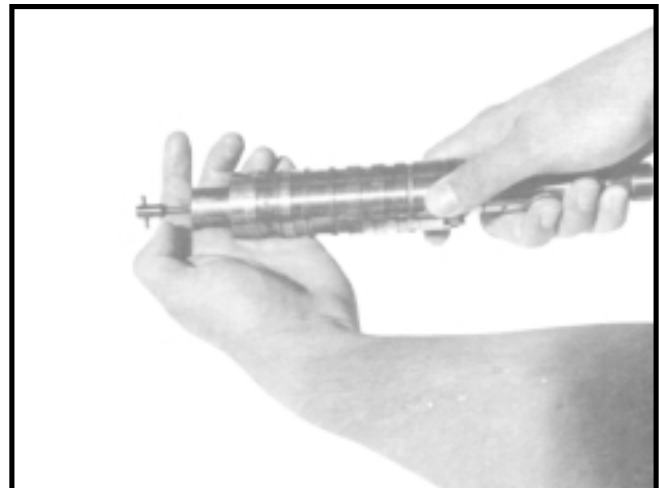

Figure HGA-13
19. Remove the torsion bar (20) and spacer (19) by inverting the spool assembly and allowing the parts to fall free. Do not remove needle roller (21) from torsion bar. (See Figure HGA-13).